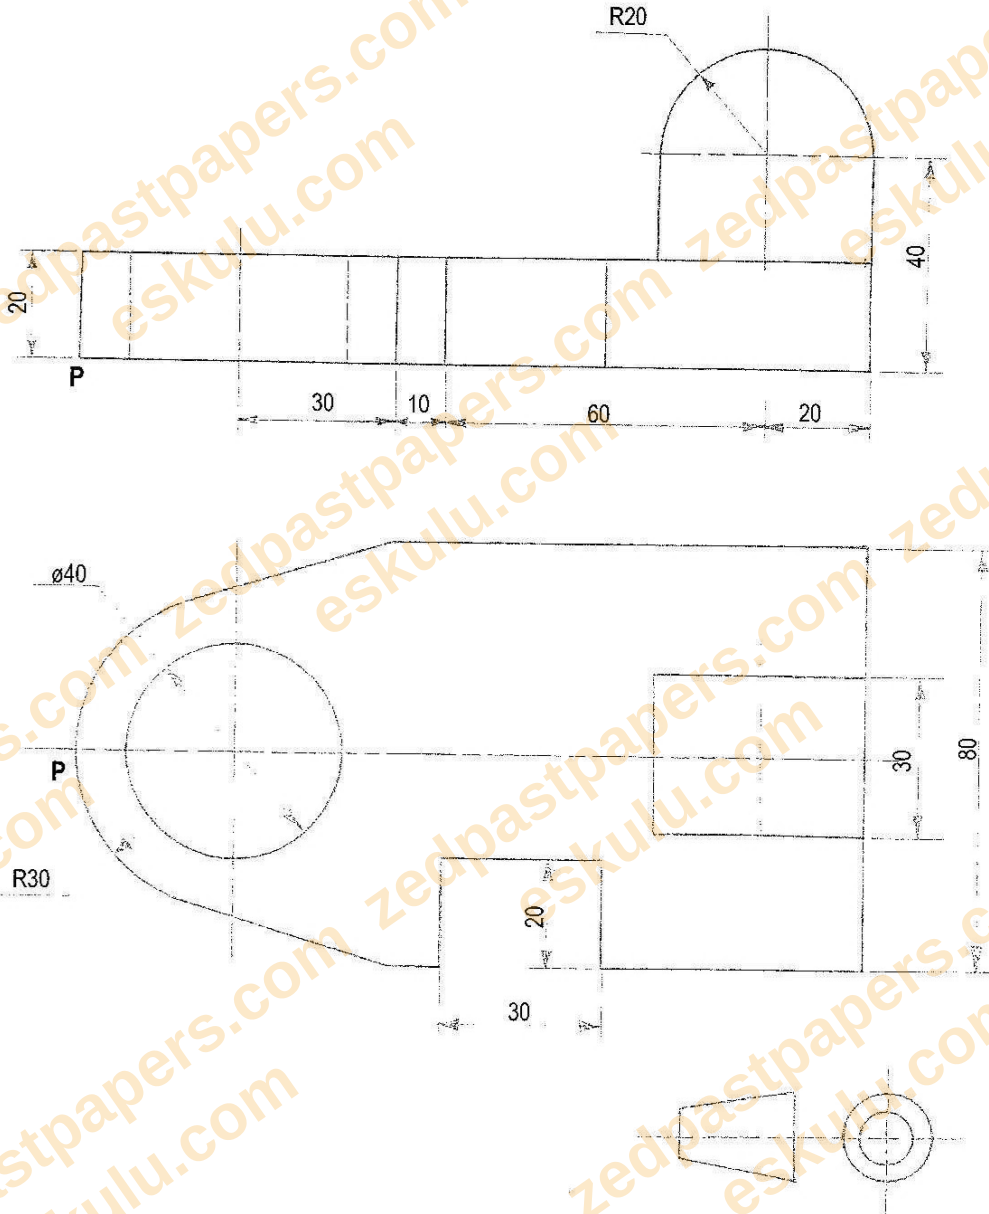

Figure 1
- 1 **Figure 1** shows two orthographic views of a **BRACKET** sketch (in freehand) a pictorial view of the bracket with point 'P' in the foreground of the view.
Question 1. SECTION 1 [16]. Figure 1 shows two orthographic views of a BRACKET (30/10/60/20mm length divisions, 20/40mm heights, R20 rounded top boss, and a plan showing Ø40/R30 curves with a 30x20mm tab). Sketch freehand a pictorial view with point P in the foreground, no instruments.